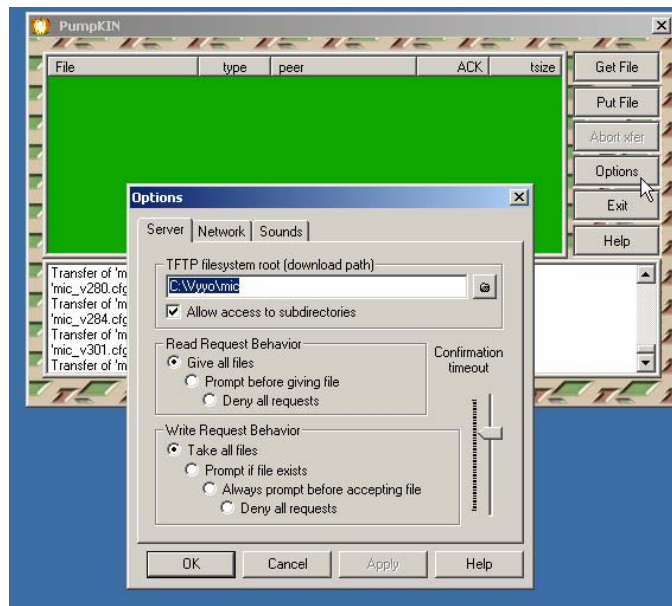

Figure 15: PumpKIN TFTP Settings
1. Open the TFTP server, in this example, `Pumpkin.exe`. You can bring up the Options dialog window by clicking **Options** (see Figure 15). This enables you to change the download directory.